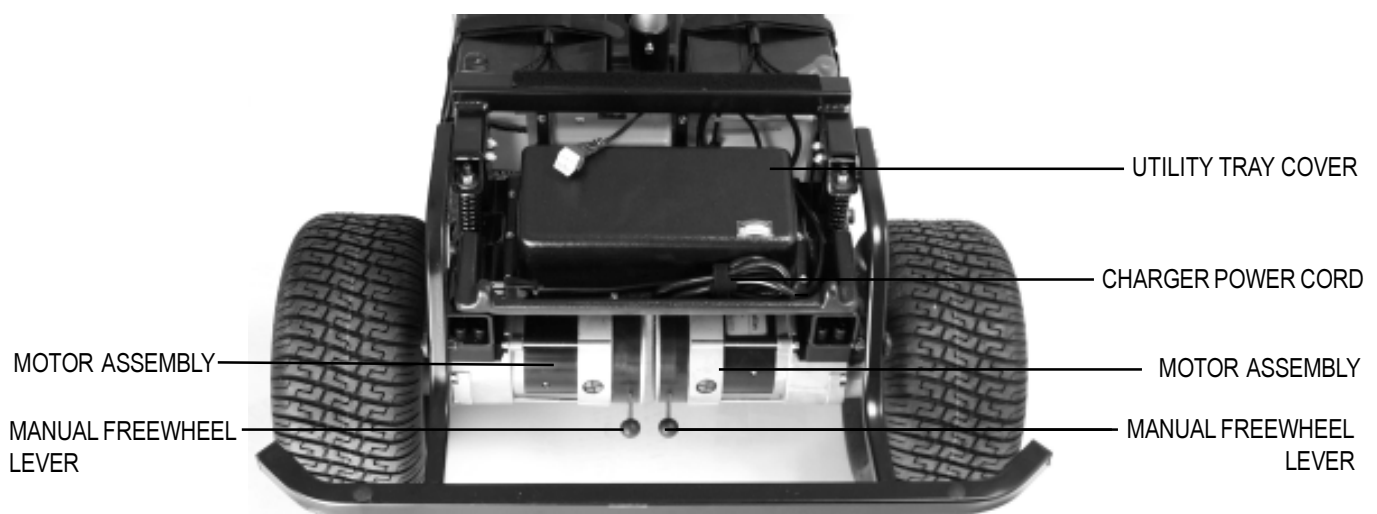

FIGURE 7A. REAR SECTION
Whenever you want to push your Wrangler for short distances, you can put it in manual freewheel mode. The manual freewheel levers are located on the end of the motors at the rear of the Wrangler. See figure 7A.
4. Extend the charger power cord (see figure 7A) and plug it into the wall outlet. We recommend you charge your Wrangler's batteries for 8 to 14 hours.